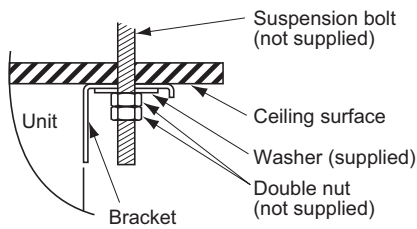

Fig. 1-41
- (6) Carry out the preparation for suspending the indoor unit. The suspension method varies depending on whether there is a suspended ceiling or not. (Figs. 1-41 and 1-42)
- (7) Suspend the indoor unit as follows:
- a) Install the bracket to the suspension bolt. Stick it onto the ceiling surface. (Fig. 1-41~1-43)